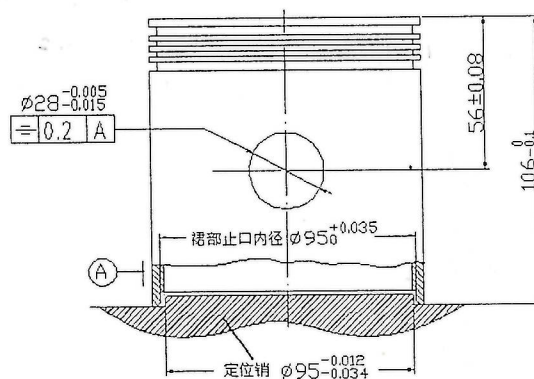

Figure 2
(3) 该工件被限制6个自由度, 未出现重复定位, 故不存在过定位现象
7. Figure 2 is a machining and positioning diagram of piston and pin hole. The piston has a full height of $106_{-0.1}^0$ mm, pin hole position of 56 ± 0.08 mm and symmetry requirement of 0.2 mm. Please analyze (16 points):